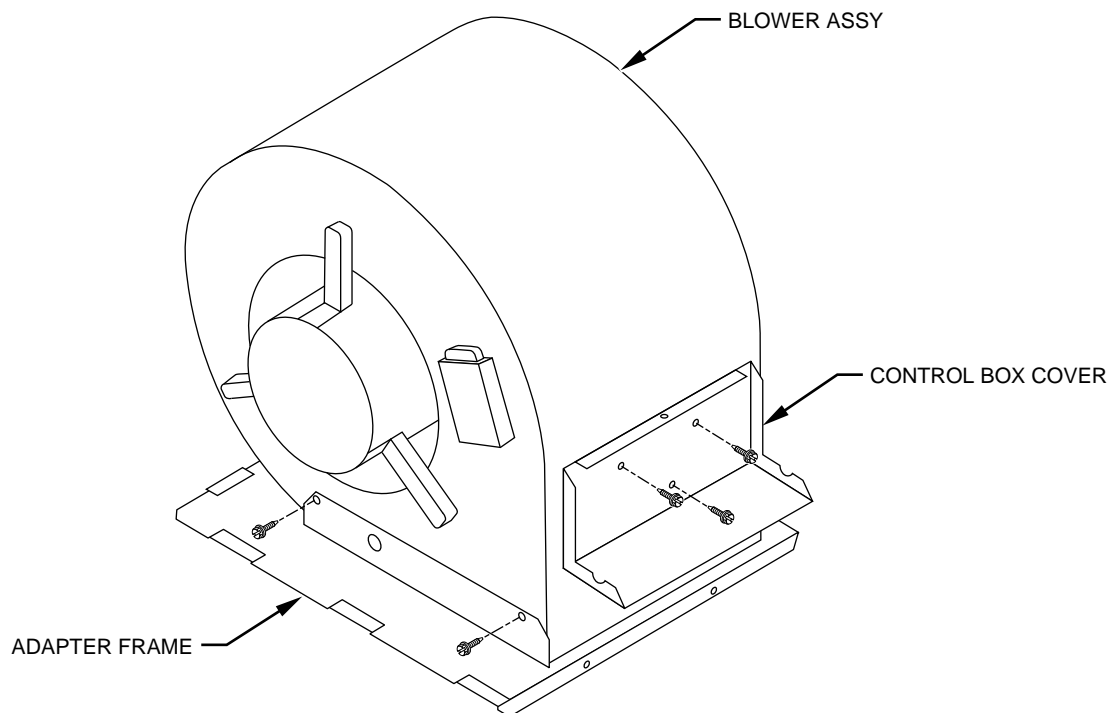

Fig. 1—Control Box Mounted to Blower Wrapper
2. Mount control box cover on blower wrapper using 2 No. 10 x 5/8- in. screws supplied in kit KCACK0201INT. Note that this may require drilling 5/32-in. diameter holes. (See Fig. 1.)
- e. Mount adapter frame, supplied in kit KCACK0201INT, to blower using 4 No. 10 x 5/8-in. screws. (See Fig. 1.) The mounting bracket should be flush with blower opening.